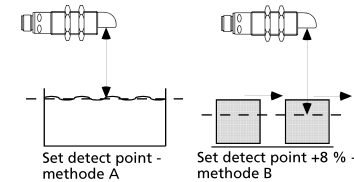

Fig. 3: Setting the detect point for different directions of movement of the object
- In the »Set detect point – method A« Teach-in procedure the actual distance to the object is taught to the sensor as the detect point. If the object moves towards the sensor (e.g. with level control) then the taught distance is the level at which the sensor has to switch the output, see fig. 3.
■ If the object to be scanned moves into the detection area from the side, the »Set detect point +8 % – method B« Teach-in procedure should be used. In this way the switching distance is set 8 % further than the actual measured distance to the object. This ensures a reliable switching distance even if the height of the objects varies slightly, see fig. 3.